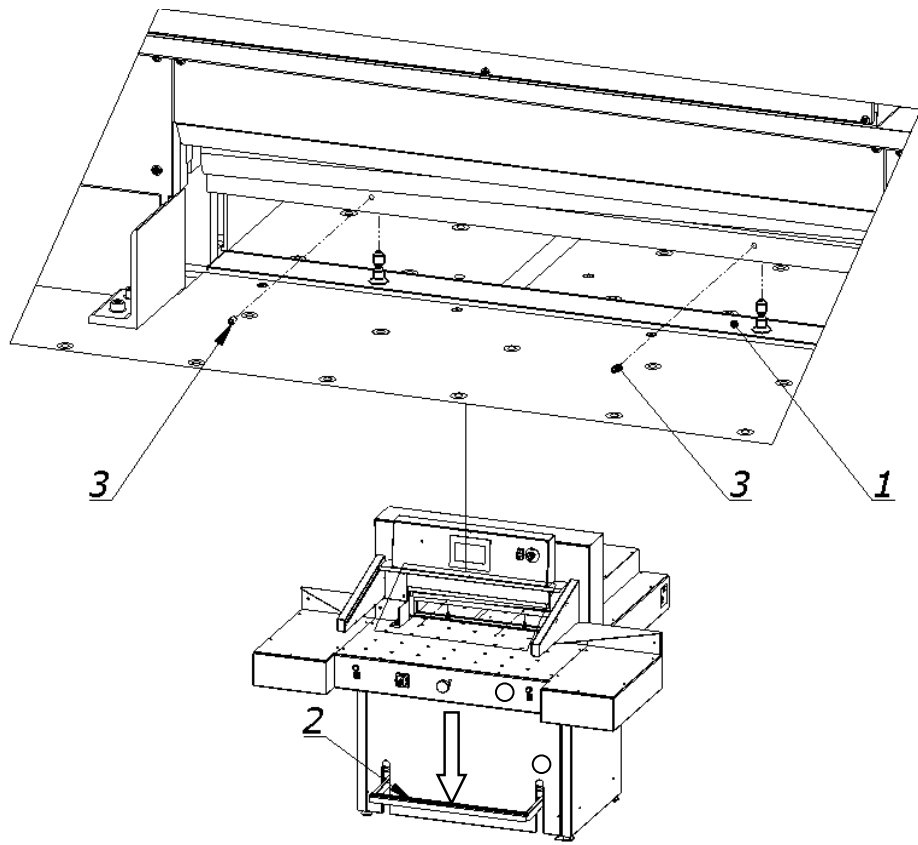

Figure 41. Operating elements used when mounting the insert in the pressure bar.
8.3.1 Put the insert 1 (Fig. 41) under the pressure beam so that the insert pins are under the holes in the pressure beam.
8.3.2 Pressing pedal 2 (Fig. 41), bring the pressure beam down so that the insert pins hit the holes in the beam and the insert adheres the entire surface to the bottom surface of the beam.
8.3.3 Use a 3-mm hexagonal key with 3 mm to firmly screw in the screws 3 (Fig. 41) into the threaded holes in the pressure bar, causing the insert to be blocked in the clamping beam.
8.3.4 Release the pressure on the pedal 2 (Fig. 41) - the beam with the inserted insert returns to the upper position